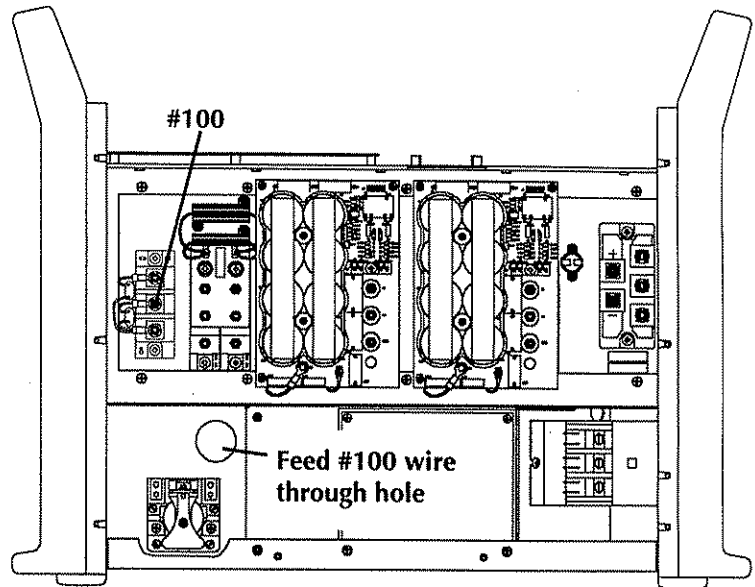

Figure 6 - Pilot Arc IGBT Connections - 2 of 3
13. Attach the wire labeled #100 to the middle terminal of the IGBT. Feed the wire through the hole below the IGBT - Fig. 6.